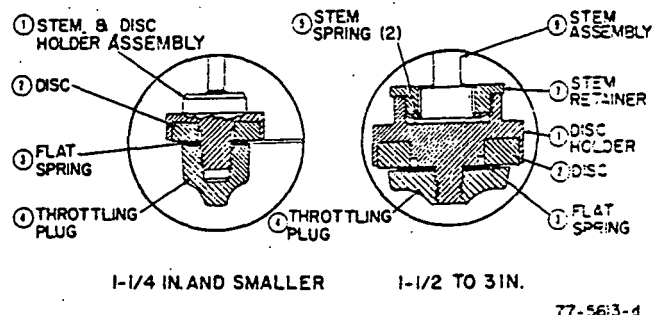

Fig. 4—Disc Holder Assemblies Used in V5011A Screwed Type Bodies.
a. Screwed Valves with Discs (V5011A & C) – Unscrew throttling plug from stem assembly to remove disc and disc spring. The disc may have to be pried out of the disc holder with a screw driver. Valves that are 1-1/2 in. or larger have separate stems and disc holders. Smaller valves have a staked stem and disc holder assembly (Fig. 4).